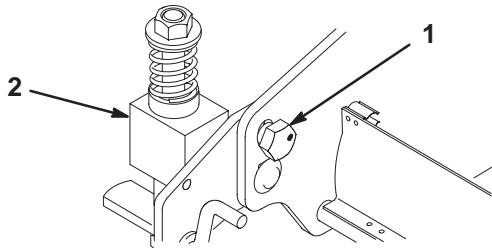

Figure 9
25. While lightly pulling forward on the front roller, rotate the upper-right roller bracket mounting bolt (eccentric) until the identification dot is positioned midway between up and down. Tighten both locknuts securing the roller bracket to the right sideplate (Fig. 9).